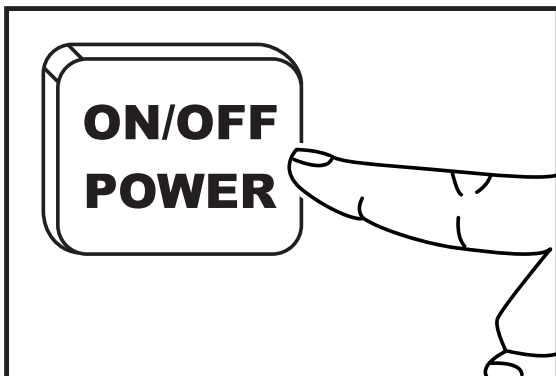

Fig. 9
- ▶ **4.1.5.** Press the “ON/OFF”/“POWER” button to switch on the appliance (Fig. 9).
- ▶ **4.3.1.** Press the “ON/OFF”/“POWER” button to switch off the appliance (Fig. 9).